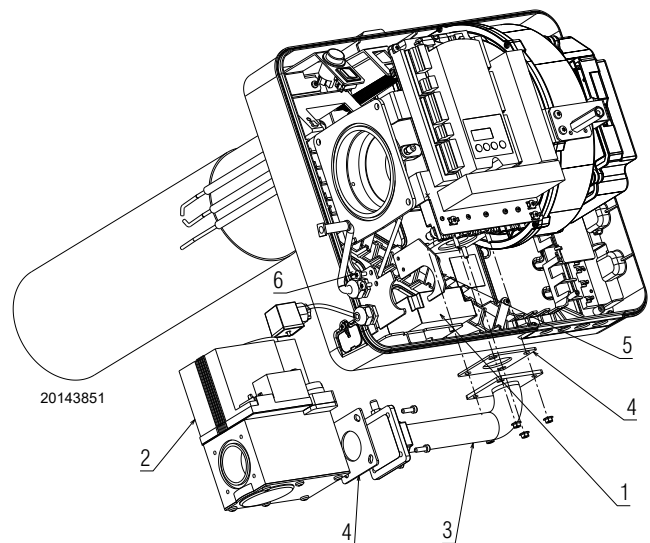

Fig. 16
Be aware of the presence of the gasket 4)(Fig. 16) and the gas seal.
- fit the air intake 1) with the screws 2) and nuts. Use the 4 countersunk screws supplied. Two screws are fixed with flanged nuts supplied (Fig. 16).
- Connect the high voltage cables to the transformer 1)(Fig. 16), and the ionisation probe lead to the appropriate cable emerging from the control box.